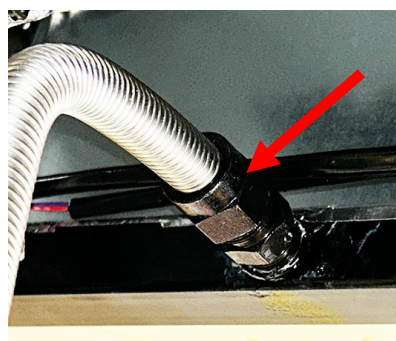

Figure 10
16. Attach the flexline installed in step 13, from the washdown assembly to the adaptor fitting in the previous step (see Figure 10).